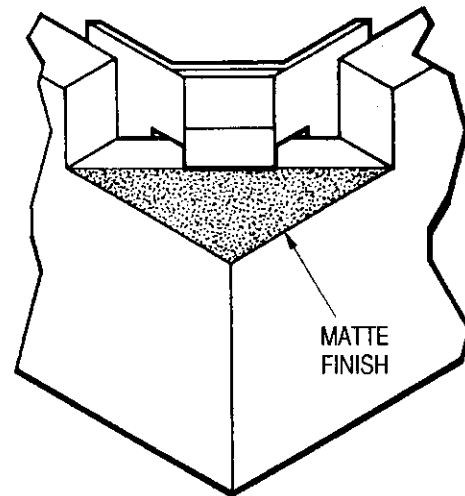

Figure 8
5. Make sure that the cover is fully and evenly seated by inspecting each of the housing latches. Make sure that all four of the housing latches are clearly snapped over the cover as shown in Figure 8. The tip of each latch should extend at least to the line where the matte finish begins for the cover to be properly seated. Also make sure that the gap between the housing and cover is even all around the socket assembly.